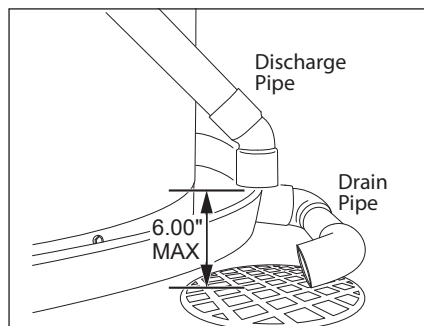

Figure 14 - The end of the T&P Relief Valve discharge pipe must stop no more than 6" (15 cm) above a floor drain or outside.
**4** Do not place any valve or other restriction between the tank and T&P Relief Valve. Do not cap, block, plug, or insert any valve between the T&P Relief Valve and the end of the discharge pipe. Do not insert or install any reducer in the discharge pipe (Figure 14).